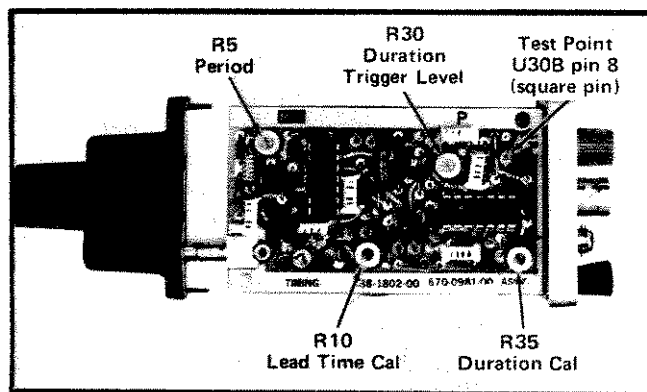

Fig. 5-7. Timing board, on the instrument left side, showing the location of internal controls.
a. Connect the Trigger Out connector on the Type 285 through a BSM to BNC 50 Ω coaxial cable, and a 50 Ω feedthrough termination to the 7B50 Ext Trig In. Connect the Type S-54 PRETRIG OUT through a BSM to BNC coaxial cable, and a 50 Ω feedthrough termination to the 7A12 CH 1 connector. Connect the 10X probe to the 7A12 CH 2, and connect the probe tip to the square pin test point or U30B pin 8. See Fig. 5-7. Connect the probe ground lead to the Timing board ground.